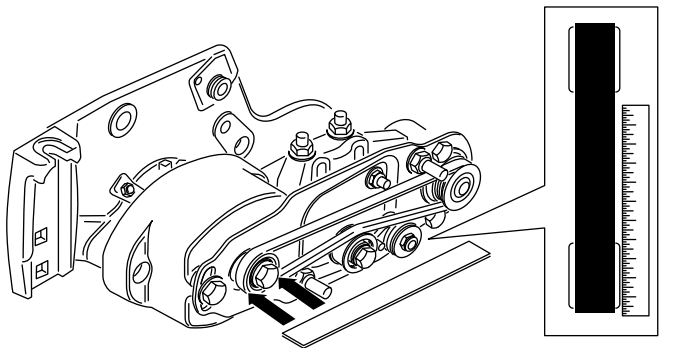

Figure 33
- Lay a straight edge along the outer face of the **drive** pulley (Figure 33). **Do not** lay the straight edge across both the drive and driven pulleys.